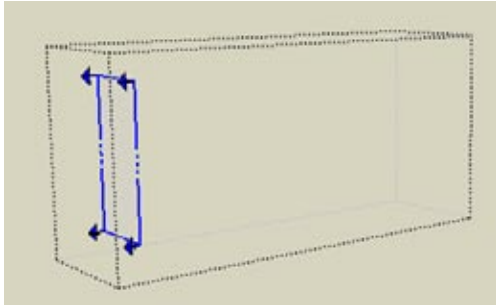

Figure 11-66
11. Right-click on the section plane and choose Reverse. Then move the plane away from the wall slightly, so that the group disappears completely (Figure 11-66). Save this as Scene 3.